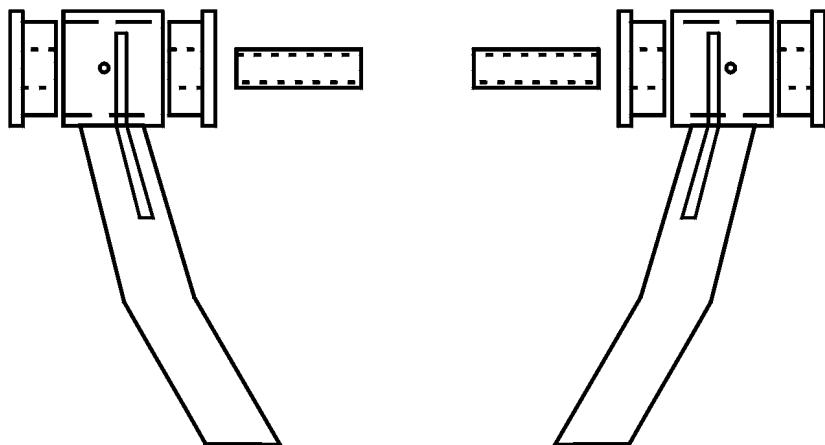
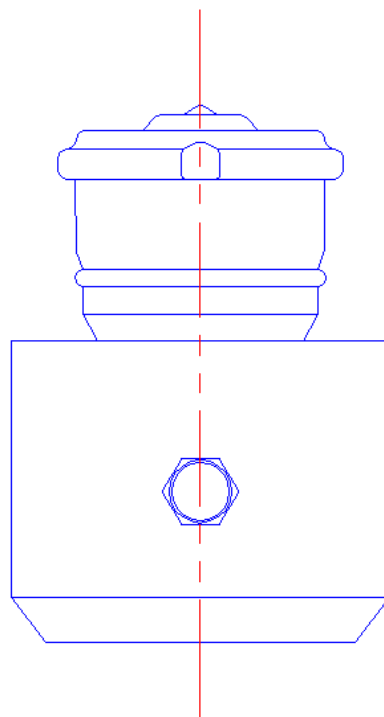

Figure 1
Figure 2
4. Take the UCA marked passenger and install the supplied grease fittings onto the UCA bushing ends. Using the supplied lube, lubricating all parts, press two bushing into each UCA end, followed by one sleeve (four bushings and two sleeves per UCA) as shown in figure 1. On the ball joint cup of the new UCA you will see a 1/4" bolt threaded into the side of it. Unthread the bolt until there is an 1/8" of thread exposed on the inside of the upper ball joint cup. Take the original upper ball joint and place it in the ball joint cup of the new passenger side UCA, lining up one of the notches in the top of the ball joint with the exposed threads of the 1/4" bolt, as shown in figure 2. Keeping the ball joint aligned with the 1/4" bolt, use the ball joint press and press the ball joint into the UCA until fully seated. Unthread the 1/4" bolt until it is flush with the inside of the ball joint cup. Using snap ring pliers, install one of the supplied snap rings into the groove on the inside of the ball joint cup. Make sure the snap ring is fully seated into the groove. Tighten the 1/4" bolt in the side of the upper ball joint cup to 8 ft/lbs..